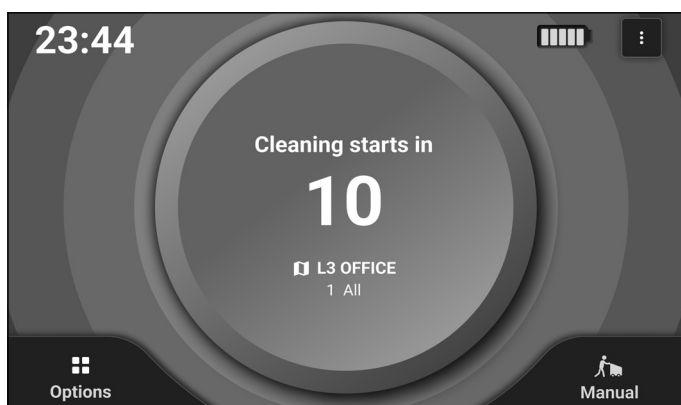

Figure 42
3. When MagicTag is successfully scanned, there will be a countdown of 10 seconds (**Fig. 42**) before the cleaning begins.